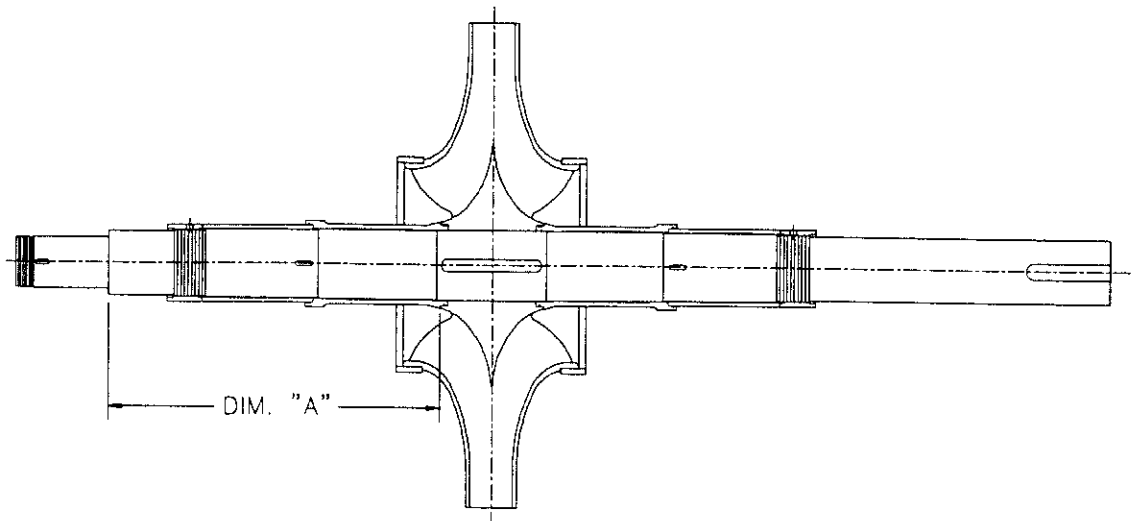

Fig. 1
- (6) Remove bolting holding bearing housings caps to bearing housings (30). Mark the caps to know to what end they belong. Lift up the caps. The entire rotating element may now be lifted out.
- (7) Pull coupling half and key off shaft. Remove bearing endplate (18).
- (8) Remove both casing rings (3).
- (9) Remove radial bearing (26C).
- (10) Remove locknut and lockwasher (27T) and pull off thrust bearing (26T).
- (11) Remove bearing endplates (18 & 19) and deflectors (17C & 17T).
- (12) Remove gland plates (12) at both ends. Be careful as not to damage the static seal ring which is mounted inside the gland plate. Refer to mechanical seal supplier's drawing and instructions for details.
- (13) Before removing the rotating assembly of mechanical seal note and mark it's axial position on shaft sleeve. For mechanical seal to work properly, installation distance from the face of stuffing box is important. See mechanical seal drawing for dimension. Remove mechanical seals.
- (14) Remove sleeve nuts (15C, 15T) using a proper "C" wrench . Watch for LEFT HAND thread on one of them. Hand of the thread is decided by shaft rotation, refer to Pump Ass'y Pix drawing. For CCW rotation (15C) is RH thread, (15T) is LH thread. For CW rotation (15C) is LH thread, (15T) is RH thread.
- (15) Remove outboard sleeves and keys from each end. To remove the impeller and the inboard sleeves, hold the shaft vertically and allow it to drop on a block of wood a number of times. The weight of the impeller will force it and the shaft sleeves off. If this does not work, apply a light press. Before removing Impeller record Dimension "A" from Impeller hub face to thrust bearing shoulder (see Fig.1) to facilitate assembly
- b) Install Impeller key on shaft. Using Dimension “A” recorded when dismantling, (See Fig.1) install Impeller on shaft.